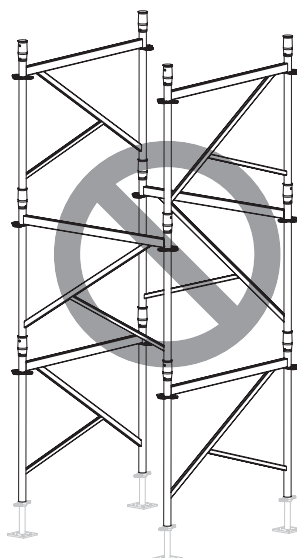

Fig. A1.14
- Always install the Frame MDS K on the frame directly below and not offset by 90°! (Fig. A1.14 – only Frame MDS 100 K is shown)